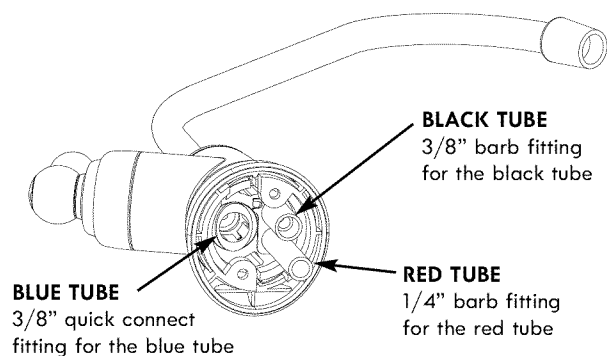

Figure 15
4. Locate the faucet base. The black and blue tubes are already connected to the faucet. Insert these tubes into the sink hole until approximately one foot of tube length and the faucet base are left above the counter surface. Do not bend or kink the tubes in the process. See Figures 15 and 21.
- C. Insert all the way onto the 1/4" faucet barb fitting on faucet. See Figure 15.